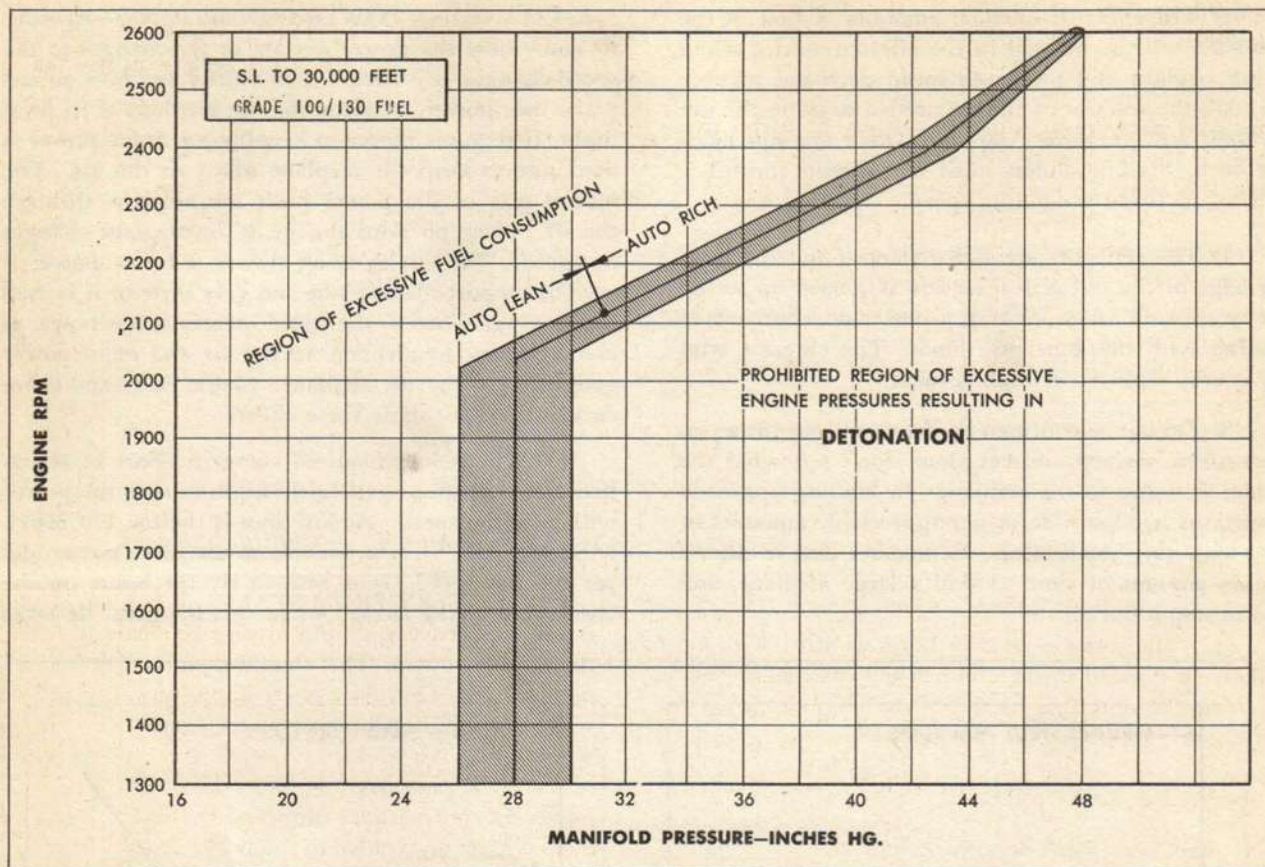

Figure 42—Engine Operating Limits
(2) Sometimes pilots have had trouble in rough air when they tried to hold the altitude constant when flying near the bottom portion of the curve. The speed changed 20 to 30 MPH, IAS. They were flying first on the "front side" and then on the "back side" of the curve. If they had held the speed constant, instead of the altitude, flying would have been easier and the altitude would not have changed too much.
(3) More power is required to fly when the airplane's weight increases. Adding 100 pounds requires from 2 to 3 more horsepower to fly the B-29 level at a set speed in the medium speed range. One more horsepower per 100 pounds is needed at higher flight speeds.
(4) The effect of altitude on the speed and power combination must also be recognized. If the power is held constant, the level flight speed will drop off at the rate of 1½ MPH, IAS for each 1000 feet increase in altitude but the true airspeed will increase 1%.
c. ENGINE OPERATING LIMITS.—In the "Region of Excessive Fuel Consumption" chart, figure 42 (region on left hand side), the manifold pressure is too low for the given RPM. The power plant efficiency decreases in this region as it is operated farther from